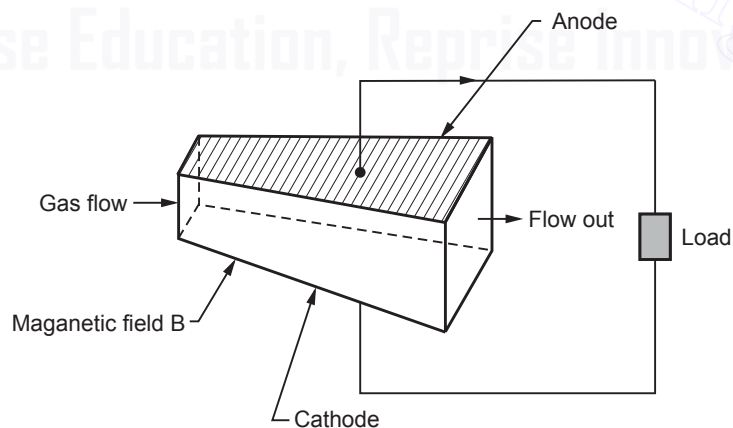

Fig. 5.10.1 Basic principle of MHD generator
- As the name implies, the magneto hydro dynamics generator shown in the Fig. 5.10.1 is concerned with the flow of a conducting fluid in the presence of magnetic and electric fields.